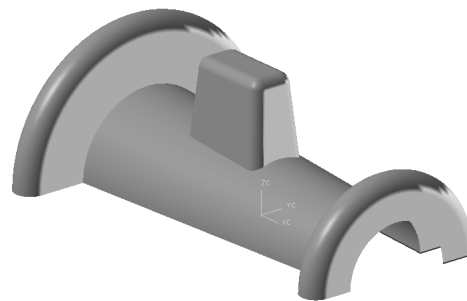

Figure 11-102 The completed surface model after adding fillets to edges
3. Choose the **OK** button from the **Edge Blend** dialog box. The completed surface model, after adding fillets to edges, is shown in Figure 11-102.